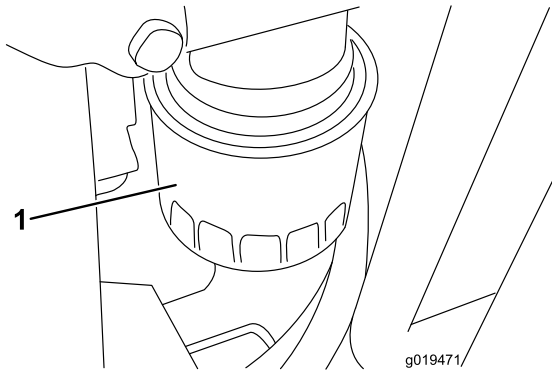

Figure 55
2. Remove oil filter (Figure 55). Apply a light coat of clean oil to the new filter seal before screwing it on. Do not over-tighten.